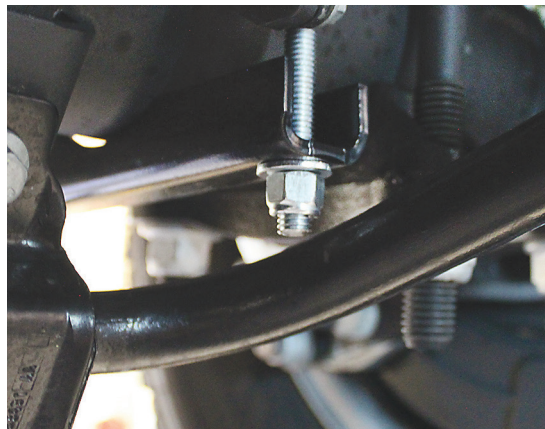

fig. D.17
4. On vehicles with an anti-roll bar, it might be necessary to cut the rear carriage bolt so it does not contact the anti-roll bar (Fig. D. 17).